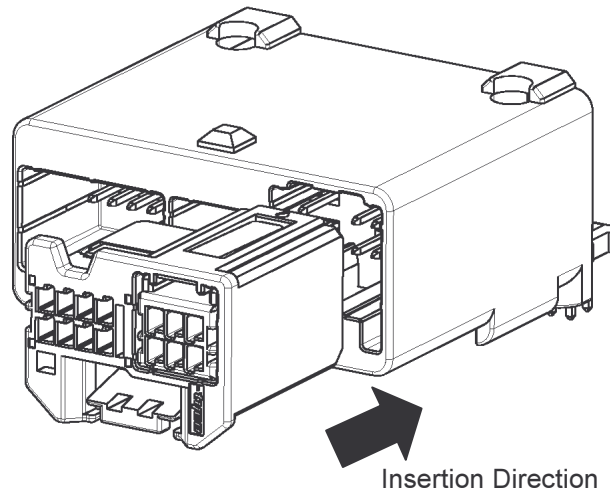

Fig.17
- (4) Insert the proper female housing into the male housing straight with same direction as shown in Fig.17. The operation is finished when you hear the click sound and can not insert further. When you can not insert the housing, do not insert by force, and check the items in (1), (2).